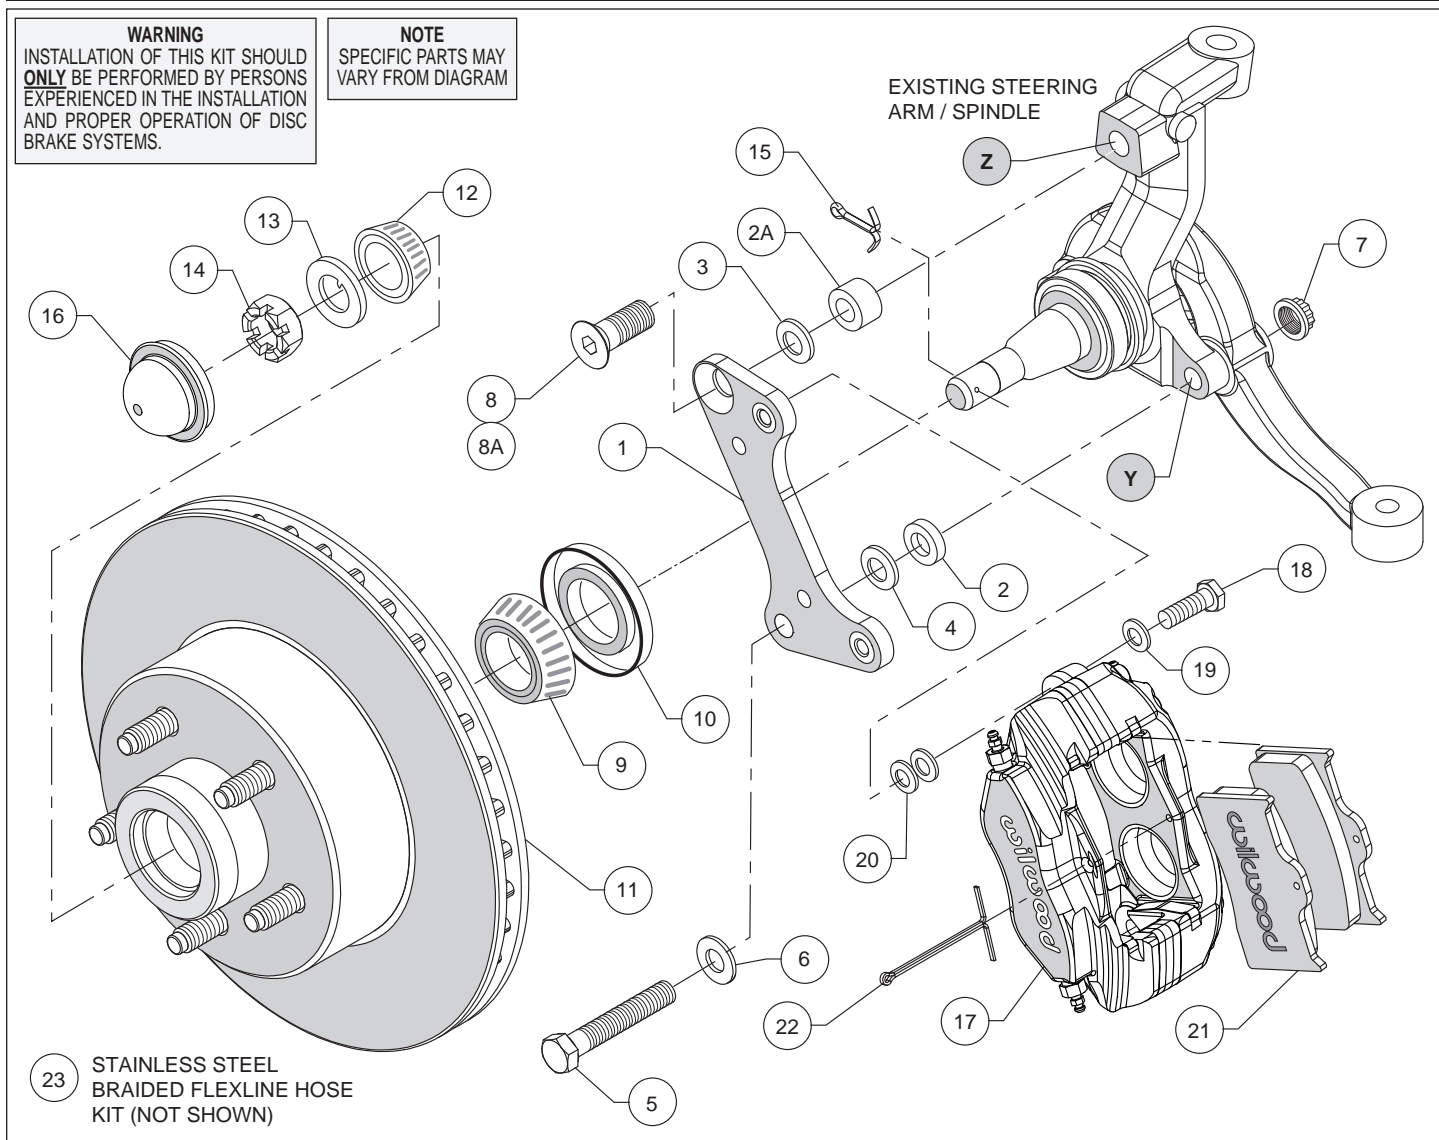
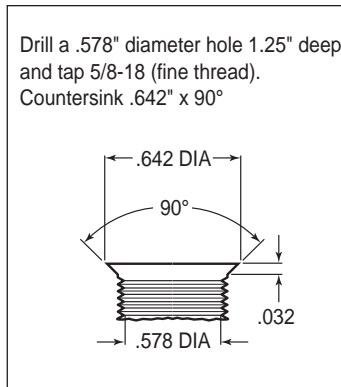
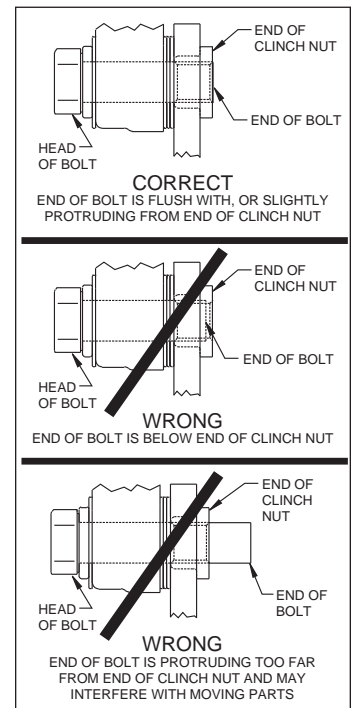

Figure 1. Typical Installation Configuration
Figure 3. Drill and Tap Detail
Figure 4. Clinch Nut Engagement Diagram
Assembly Instructions (numbers in parenthesis refer to the parts list and Figure 1 on the preceding page): **CAUTION:** All mounting bolts must fully engage clinch nuts. Be sure to check that all bolts are either flush or protruding through flanged side of clinch nut after shimming, Figure 4.
•**NOTE:** 1964-66 spindles may require the following modifications (reference Figure 1 and Figure 3): Top anchor pin hole (Z) must be drilled and tapped to the dimensions as outlined in Figure 3. Bottom rear steering arm bolt hole (Y) in the spindle and steering arm must be enlarged to .50" by drilling.
•Pack the large inner bearing cone (9) with high temperature disc brake bearing grease (available from your local auto parts store) and install into the backside of the hub (11), Photo 1.
•Install the grease seal (10) by pressing into the backside of the hub (11), flush with the end of the hub.
•Attach caliper mounting bracket (1) to spindle face using lower bolt (5), washer (6), and a .090" thick spacer (2) positioned between the bracket and the spindle face, as shown in Figure 1 and Photo 2. Secure bolt on the backside of the steering arm with lock nut (7). Finger tighten. Install upper bolt (8) (for drum spindle) or bolt (8A) with spacer (2A) between bracket and spindle (for disc brake spindle), Photo 3. Ensure that the flanged heads of the clinch nuts in the bracket are facing outboard, Photo 3. Temporarily tighten the mounting bolts and install the new hub/rotor (11). Check that the bracket is aligned parallel to the rotor, Photo 4. If not, adjust by adding shim washers (3 and/or 4) between spacers (2 and/or 2A) and the bracket, Figure 1. Once the bracket alignment is correct, remove the upper bolt (8 or 8A), apply red *Loctite*® 271 to bolt threads, and torque to 120 ft-lb. Torque lock nut (7) to 65 ft-lb.
•Final install hub/rotor. Pack the small outer bearing cone (12) with high temperature disc brake bearing grease and install into hub (11). Slide the hub/rotor onto the spindle. Secure using spindle washer (13) and nut (14), Photo 5. Adjust bearings per OEM specifications. Install new cotter pin (15).
•Press the dust cap (16) into hub (11).
•**NOTE:** Please reference the caution statement at the beginning of the assembly instructions. Mount the caliper (17) onto the caliper mounting bracket (1) using bolts (18) and washers (19), as shown in Figure 1. Initially place two .032" thick shims (20) on each bolt between the caliper and the bracket, Photo 6. Temporarily tighten the mounting bolts and view the rotor (11) through the top opening of the caliper. The rotor should be centered in the caliper, Photo 7. If not, adjust by adding or subtracting shims between the bracket and the caliper. Always use the same amount of shims on each of the two mounting bolts. **NOTE:** The end of each bolt must be flush with or slightly protruding from the head of the clinch nut, as shown in Figure 4.
If necessary place spare shims between washer (19) and caliper mounting ear to achieve the proper clinch nut engagement, as shown in Figure 4. Once the caliper alignment and clinch nut engagement are correct, remove the bolts one at a time, apply red *Loctite*® 271 to bolt threads, and torque to 40 ft-lb.